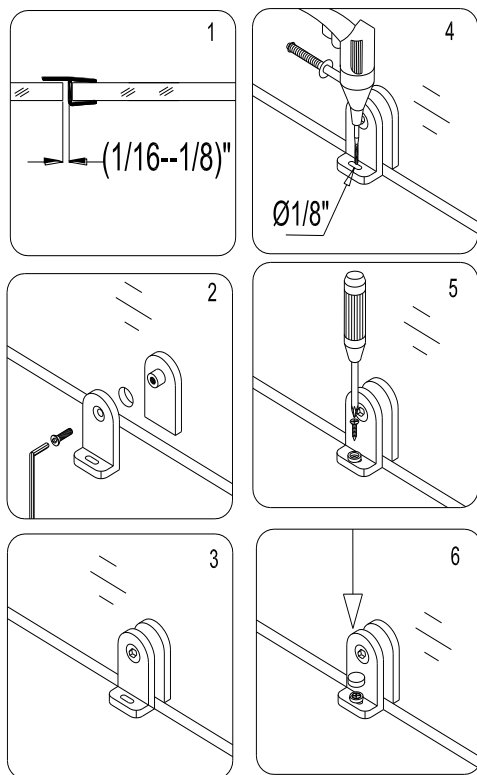

fig. 11
10. Adjust the **Stationary glass** position to ensure that when the glass door is closed, there is a gap (1/16-1/8") between the two glass panels. To adjust and secure the stationary glass - install the **Bottom Bracket (19)** to the stationary glass; mark the drilling hole for the bracket. Make sure the mark is clear and visible and drill the hole. Use the **Round head screws ST4.2x25 (16)** to attach the **Bottom Bracket (19)** to the tray or the threshold. Cover the screw head with **Decorative cover (18)**. See fig. 11&12 for details.